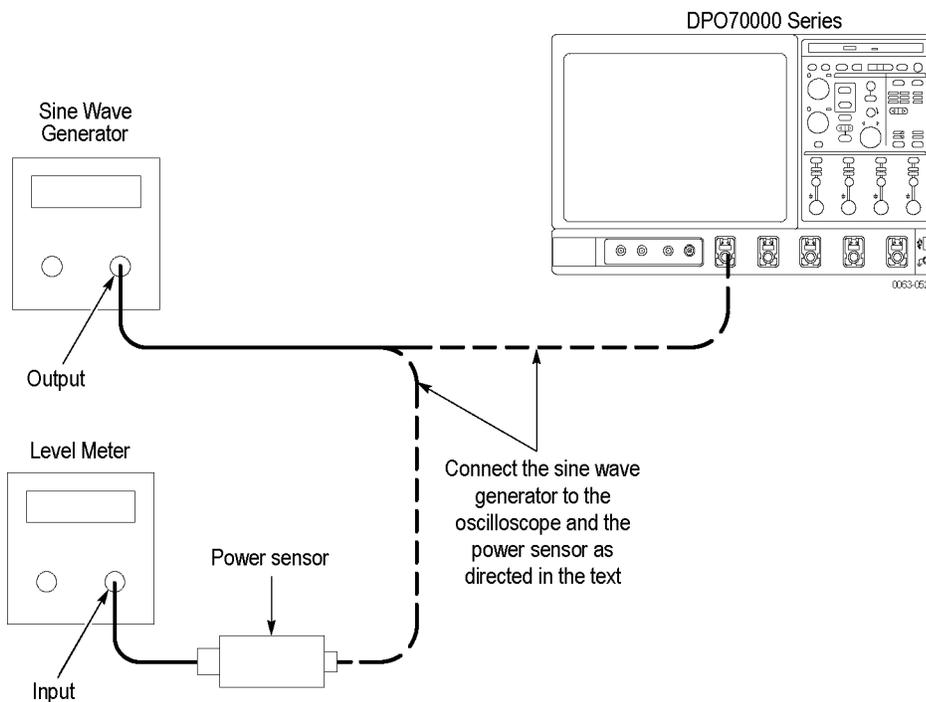

Figure 47: Equipment setup for maximum amplitude
1. *Install the test hookup:* Connect the equipment as shown in the figure below (start with the sine wave generator connected to the instrument). (See Figure 47 on page 330.)